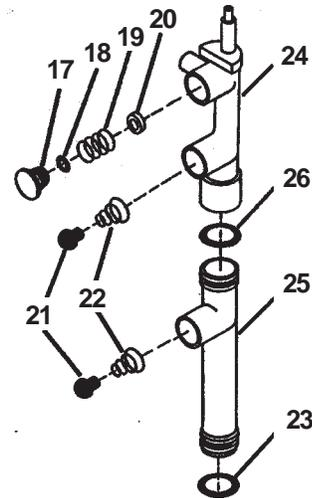

Figure 9. Pump Disassembly Step Three
(See Fig. 9)
- C. Place "O"-ring (26) onto mix transfer tube bottom (25) and lubricate. Place mix transfer tube bottom (25) into air transfer tube top (24). (See Fig. 9)
On hopper models: place mix transfer tube "O"-ring (23) onto bottom of mix transfer tube (25) and lubricate lightly. Position small end of two air/mix outlet springs (22) onto two air/mix outlet valves (21) and insert into mix transfer tube. Place valve retainer "O"-ring (18) onto valve retainer (17). Insert safety valve (20), spring (19) and valve retainer (17) into top hole of mix transfer tube. (See Fig. 9)